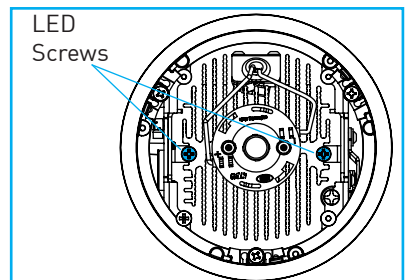

Fig.40
3. Using a standard #2 Phillips-head screwdriver, remove 2 screws from LED assembly to detach from mounting surface. (Fig.40)